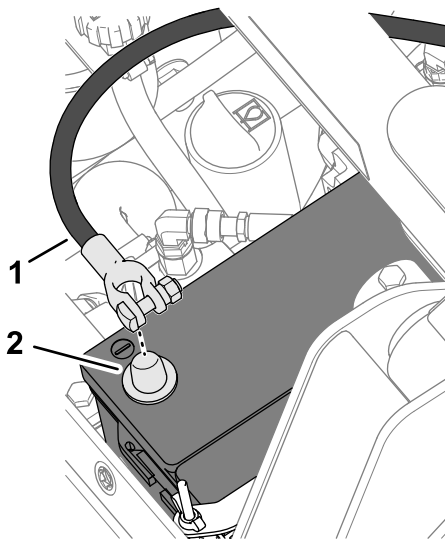

Figure 3
2. Loosen the nut and tee bolt securing the negative battery cable to the battery post (Figure 3), and remove the cable from the battery.